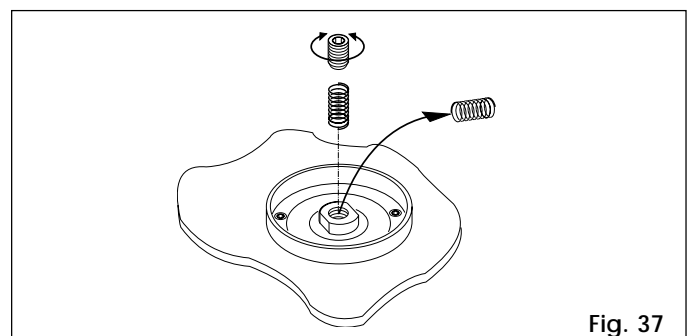

Fig. 37
- ➔ The operator is factory-equipped with a clutch adjustment spring for gates weighing up to 1,000 kg. For heavier gates, fit the spring supplied. The procedure for replacing the spring is shown in Fig.37.